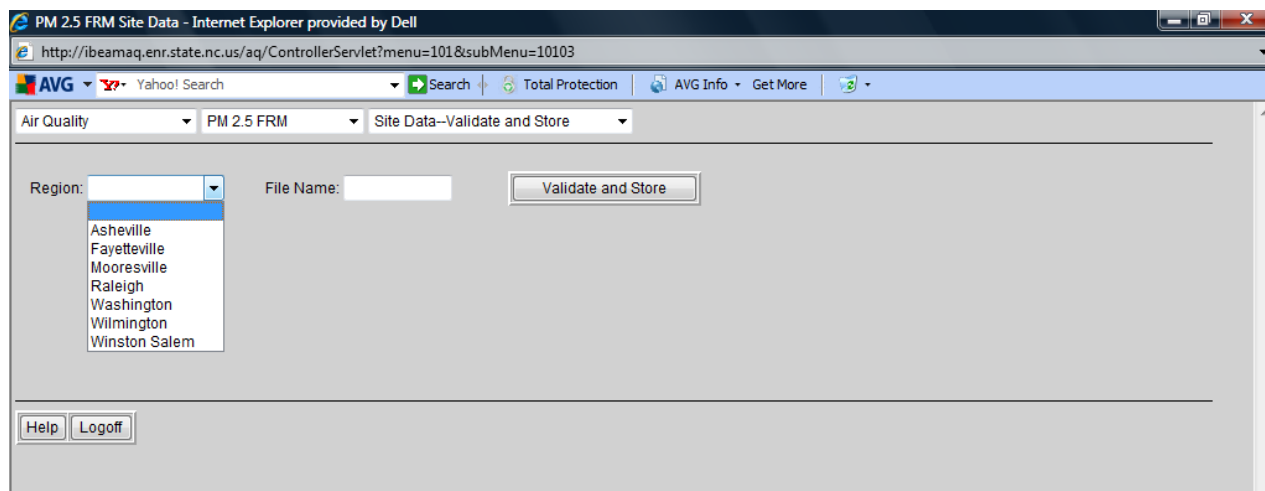

Figure 28. IBEAM PM 2.5 FRM Module.
2. From the middle down menu, choose PM 25 FRM. A third drop down menu will appear on the far right (Figure 28).